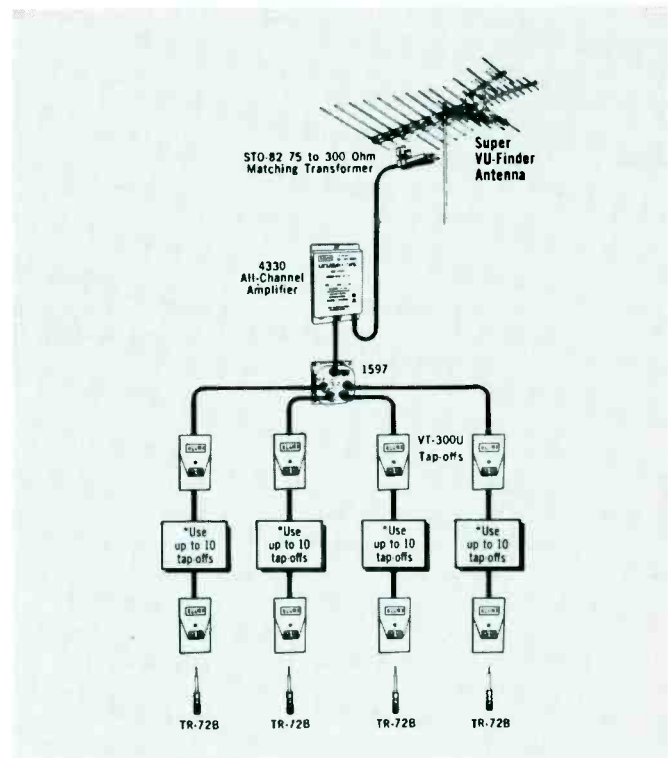

Fig. 1 One example of a "packaged" MATV system. This one handles up to 40 TV receivers.
**Design the system, or choose a packaged system which meets the requirements.** For example, suppose it is a 10-story apartment house with four apartments per floor. Figure 1 shows one type of packaged system for those specifications.
Take the system of Figure 1, for example. The bill of materials might look something like this:
Let's go back to the example of Figure 1 and estimate it using normal figures for labor. We'll assume that it is an old building, where cable can be run at about 25 feet per hour.